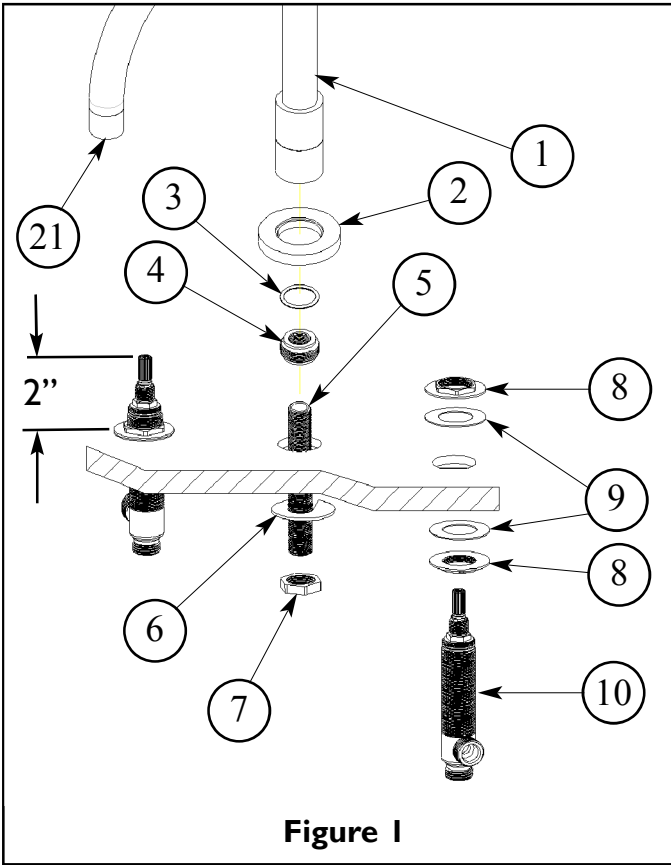

Figure 1
1. Thread Spout BUSHING (4) into spout BASE (1). Thread SHANK (5) into BUSHING (4). Insert the spout SHANK (5) through spout base RING (2) with WASHER (3) and center hole of mounting surface. Secure SPOUT (1) and spout base RING (2) into place with spout WASHER (6) and NUT (7). See Figure 1
2. Place NUT (8) and WASHER (9) on valve BODY (10). Insert BODY (10), (blue cold and red hot), through hole in the mounting surface. Adjust and secure with additional WASHER (9) and NUT (8) so that the top of valve is 2" above top of mounting surface. Before tightening down flange NUT (8), check HANDLE (19, 19a) alignment by placing onto Valve (10). Any adjustments for rotational alignment must be made to the valve BODY (10), not to the cartridge. See Figure 1.